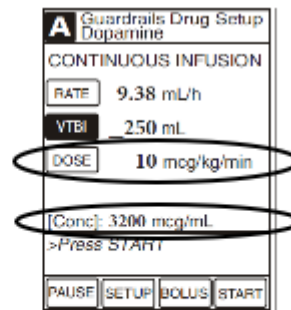

Figure 3. PC unit programming screen
- 10 in the “DOSE” field (Figure 3)